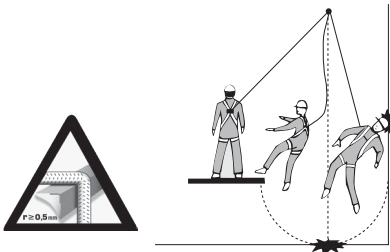

Figure 4: swinging risk
**Swinging risk:** When the fall arrester enters into action, to avoid injury due to impact, for instance against the building, whenever possible choose an anchorage point located vertically above the user (see figure 4).